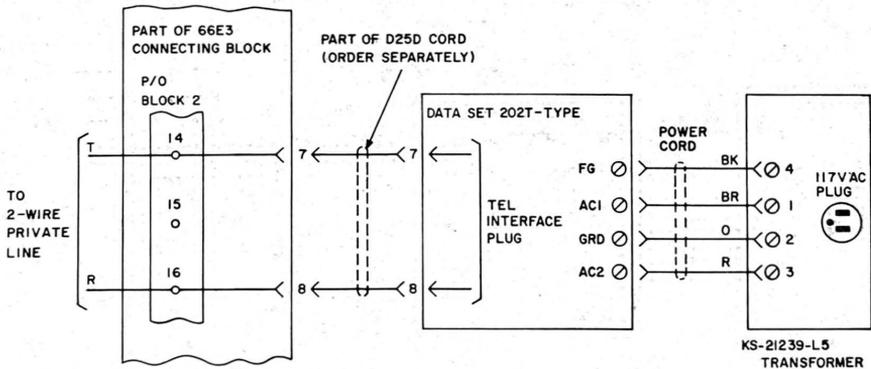

Fig. 12—2-Wire Data Set Connected to Locally Engineered Private Line Termination
- Fig. 12—2-Wire Data Set Connected to Locally Engineered Private Line Termination